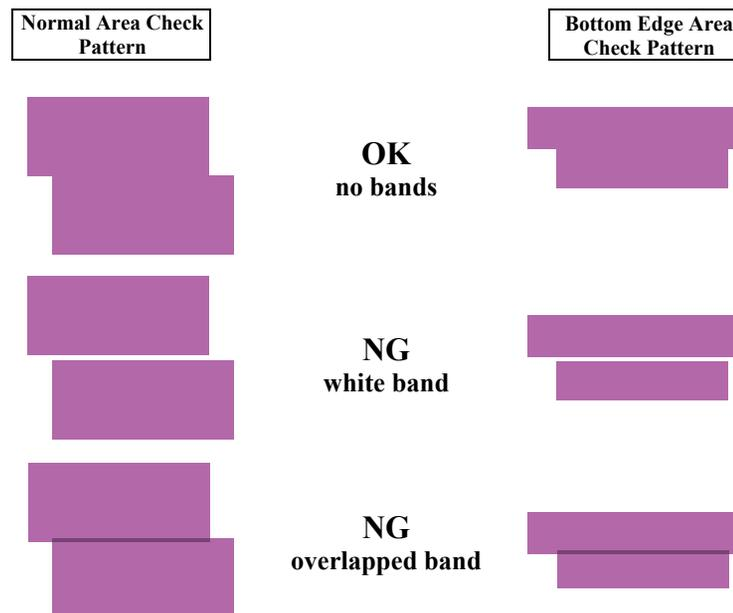

Figure 5-18. PFP Check Pattern Judging Standard
- Referring to Fig. 5-18 check that there is no white or overlapped bands in all the check patterns. If any bands are found, carry out the steps below.